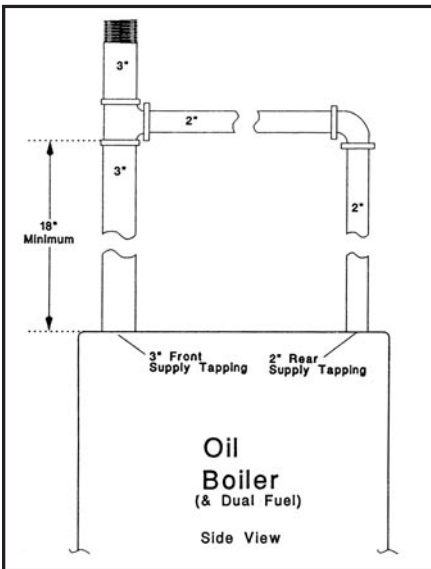
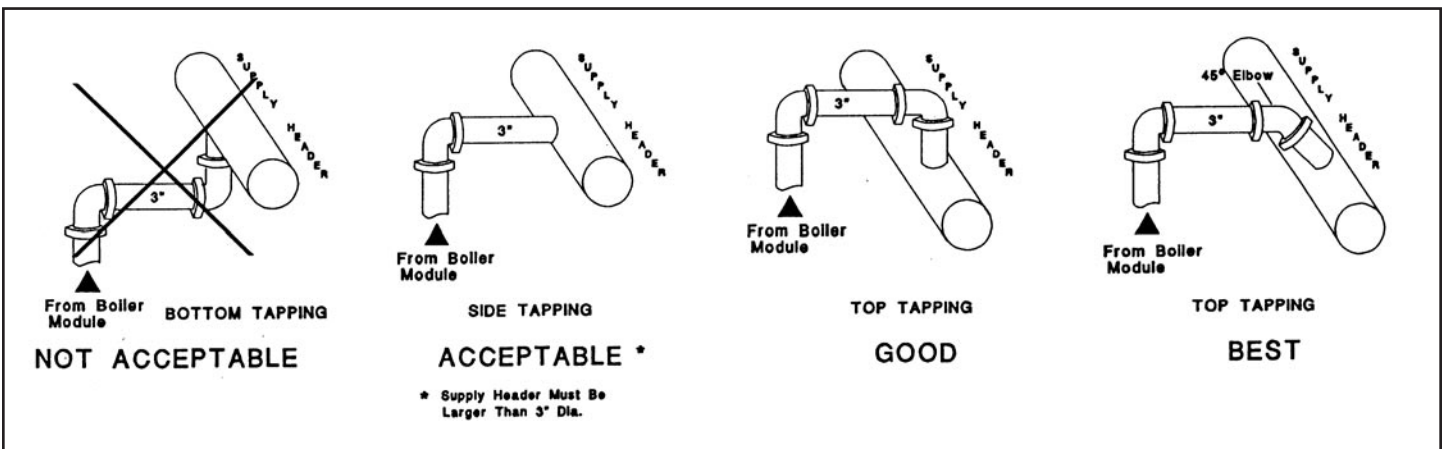

Figure 10: Steam supply header at oil modules
Figure 9: Steam supply header piping
pipng arrangement. Figure 9 shows the piping arrangement between the module and header connections. In this area, try to keep the number of elbows to a minimum (maximum 3). It is important to note that a pressure difference of as little as one ounce (1/16 PSI) between modules will result in a water level difference of almost 2 inches.
4. 2" rear supply tap on module must be piped into the 3" front supply pipe as shown in Fig. 10 on page 10 to minimize pressure drop, no more than three 90° elbows should be installed between the module supply tapping and steam header (See figure 9, page 10)
6. To prevent accumulation of condensate, steam headers should be pitched down in the direction of steam flow and toward the equalizer/drain with no reduction in size. Module connections must be on the side of the header (horizontal) or at any angle between the side and top of header, never between the side and bottom. To prevent condensate in the header from re-entering the boiler supply pipe, side connections must enter a header that is at least one size larger than the boiler supply connections. Top or 45° top-angle connections are preferred and can enter a header of the same size or larger. See Figure 9. The supply header for each module should be sized according to Figure 10, page 10.